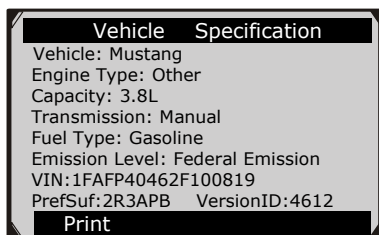

Figure 4.3
- 4) Review selected data on screen. (Figure 4.3 )